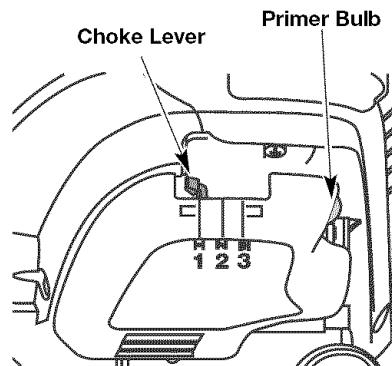

Fig. 8
**WARNING:** Avoid accidental starting. Make sure you are in the starting position when pulling the starter rope (Fig. 8). To avoid serious injury, the operator and unit must be in a stable position while starting.
**NOTE:** There is no need to turn the unit on. The On/Off Stop Control is in the ON (I) position at all times.
3. Fully press and release the primer bulb 10 times, slowly. Some amount of **fuel should be visible in the primer bulb and fuel lines** (Fig. 8). If you can't see fuel in the bulb, press and release the bulb as many times as it takes before you can see fuel in it.
4. Place the choke lever in **Position 1** (Fig. 8).
6. Place the choke lever in **Position 2** (Fig. 8).
9. Place the choke lever in **Position 3** (Fig. 8). The unit is ready for use.